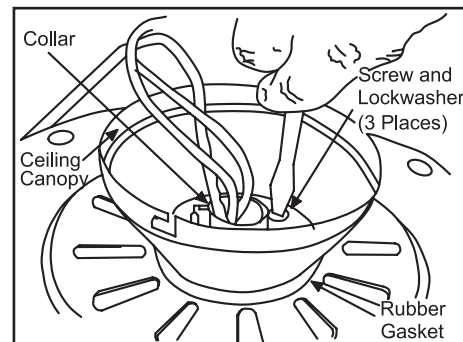

Figure 9
the collar at the top of the motor (Figure 9).
5. Align the mounting holes with the holes in the motor and fasten, using the three screws and lock-washers removed in step 3 (Figure 9).